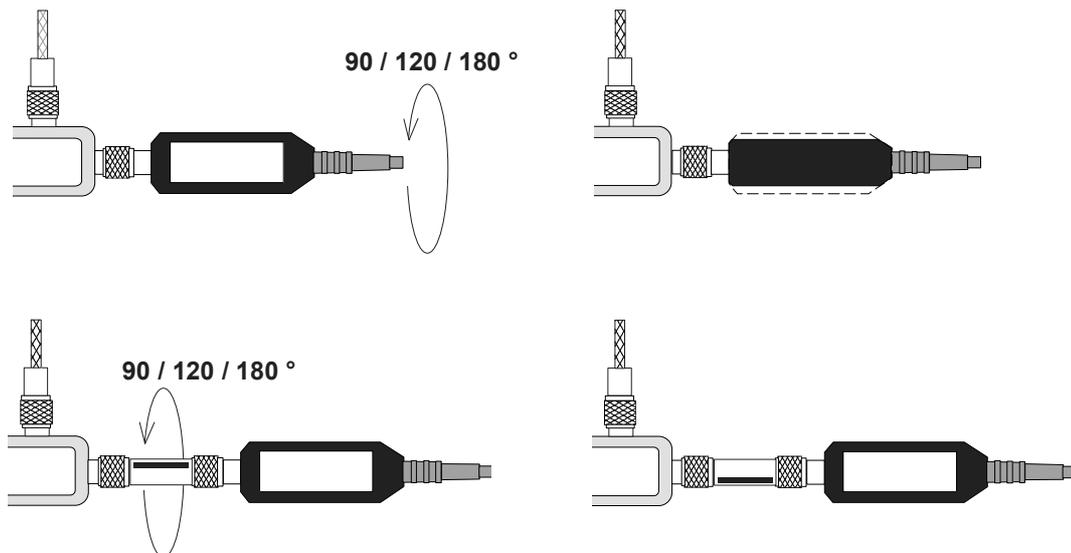

Fig. 3-5 Turning the sensor or attenuator before the next measurement cycle.
- Undo the RF connector and turn the sensor/attenuator by 90°, 120° or 180° (Fig. 3-5) depending on the number of cycles. Treat the power attenuator of the R&S®NRV-Z32/-Z33/-Z53/-Z54 sensors as the reference attenuator. Then press the **Ja** (Yes) button. Once the measurement sequence has been completed, the averaged power or voltage ratio is displayed as a red line in the diagram